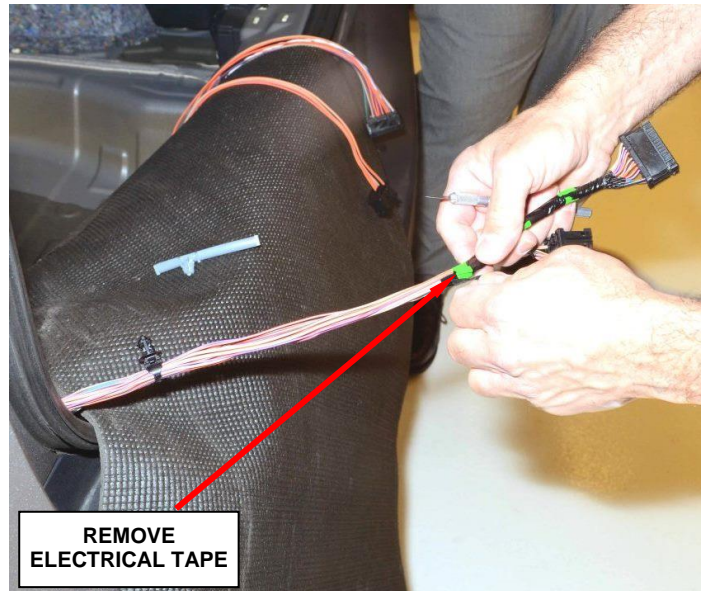

Figure 7 – Remove Electrical Tape
4. Remove and discard the wire harness electrical tape (Figure 7).